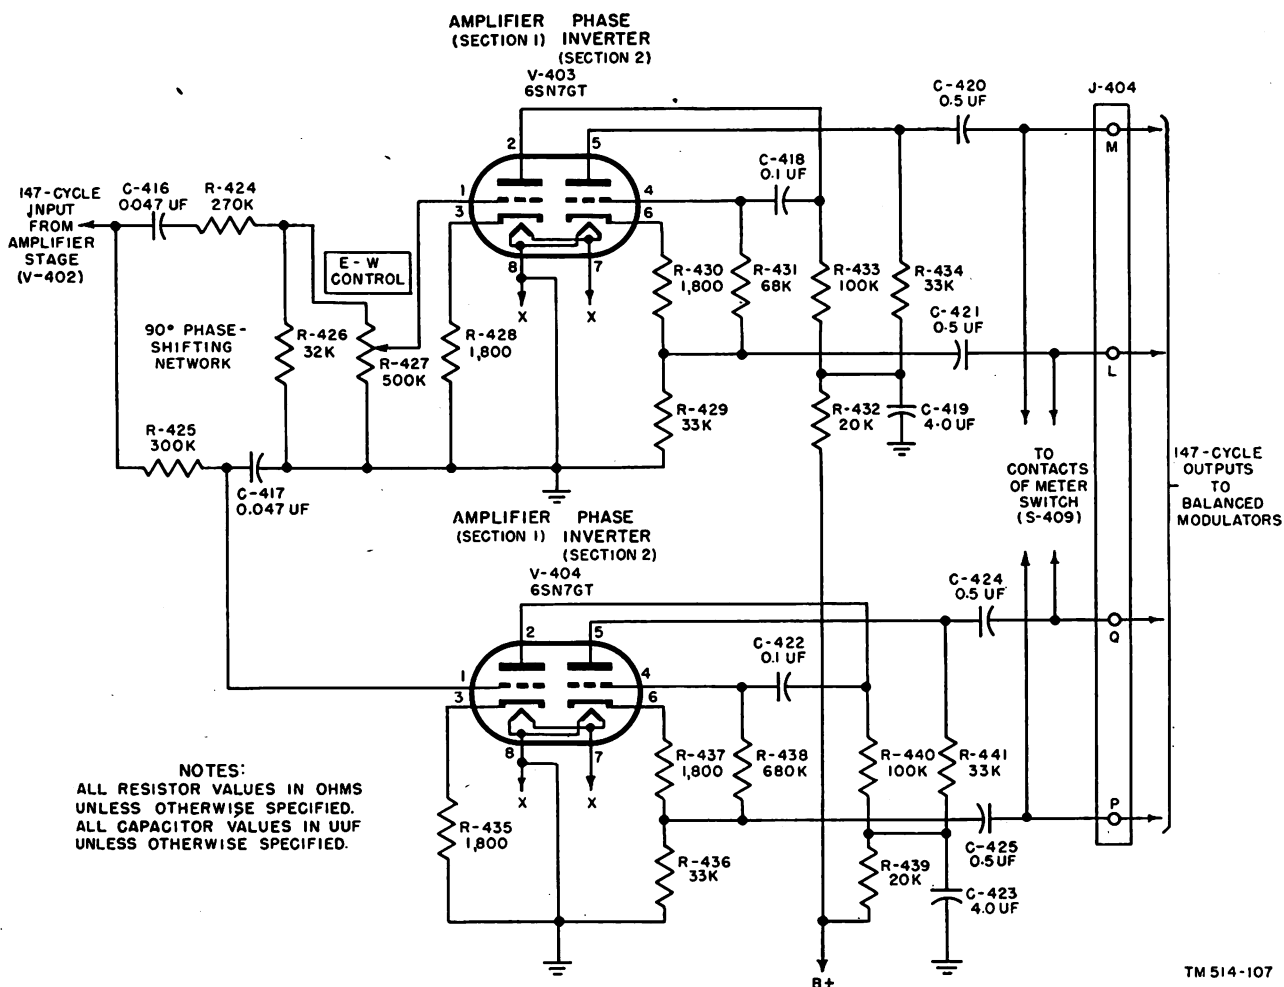

Figure 61. Modulating Voltage Generator O-15/CRD-2, phase shifter, amplifiers, and phase inverters, schematic diagram.
76. Phase Shifter, Amplifiers, and Phase Inverters (fig. 61)